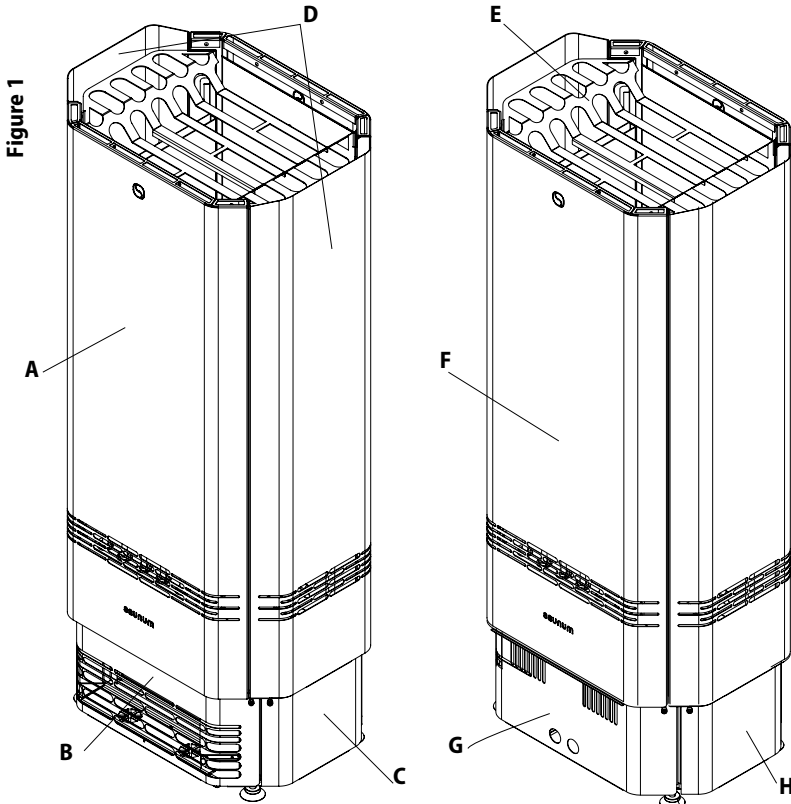

Figure 1
- The dimensions of the device are shown in Figures 1 (see page 11).